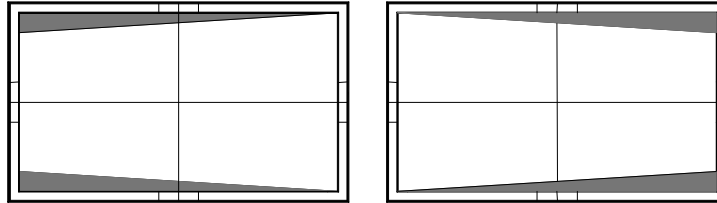

*Figure 4B: Rotation Adjustment Location*
2. From the rear of the TV, access the black Rotation Adjustment screw and adjust so the test pattern center lines are parallel to the sides, top and bottom of the screen frame, *Figure 4B*. (Use a mirror to view the picture from the rear of the set.)